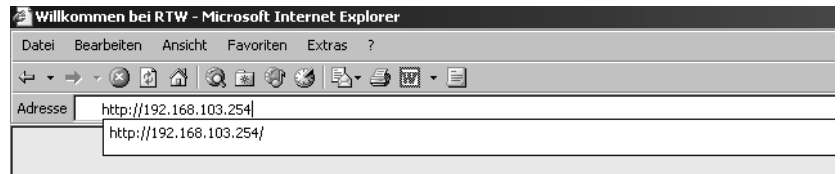

Fig. 8-9: Entering the IP adress
1. Start your internet browser and enter `http://192.168.103.254` in the address field (see Fig. 8-9) followed by the hit of the return (Enter) key.